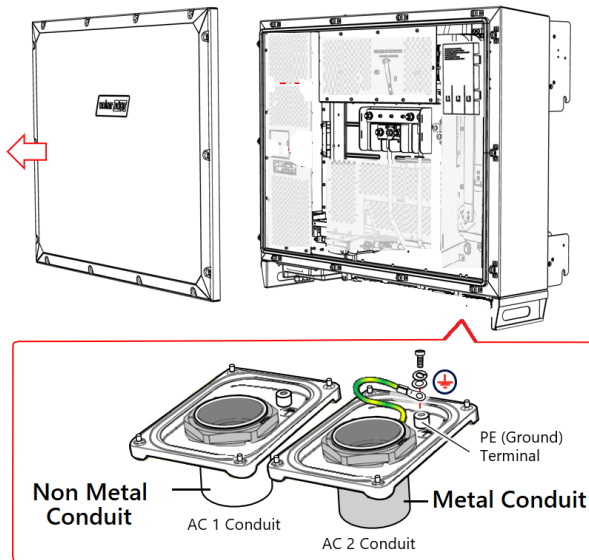

Figure 30: AC Panels
5. Connect a PE (Ground) wire between a metal conduit and the PE (Ground) terminal on the AC panels (see *Figure 30*).